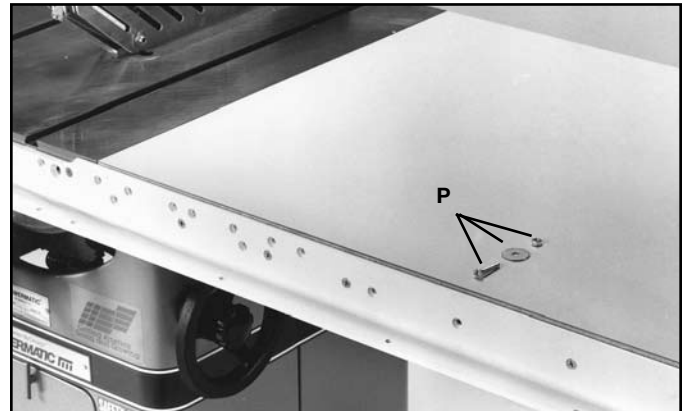

FIG.21
13. After the holes have been drilled in the front and rear table frame, fasten both front and rear rail to table Fig. 21 using the 1/4-20 x 1-1/2" long flat head screws, fender washers and hex nuts (P) provided.